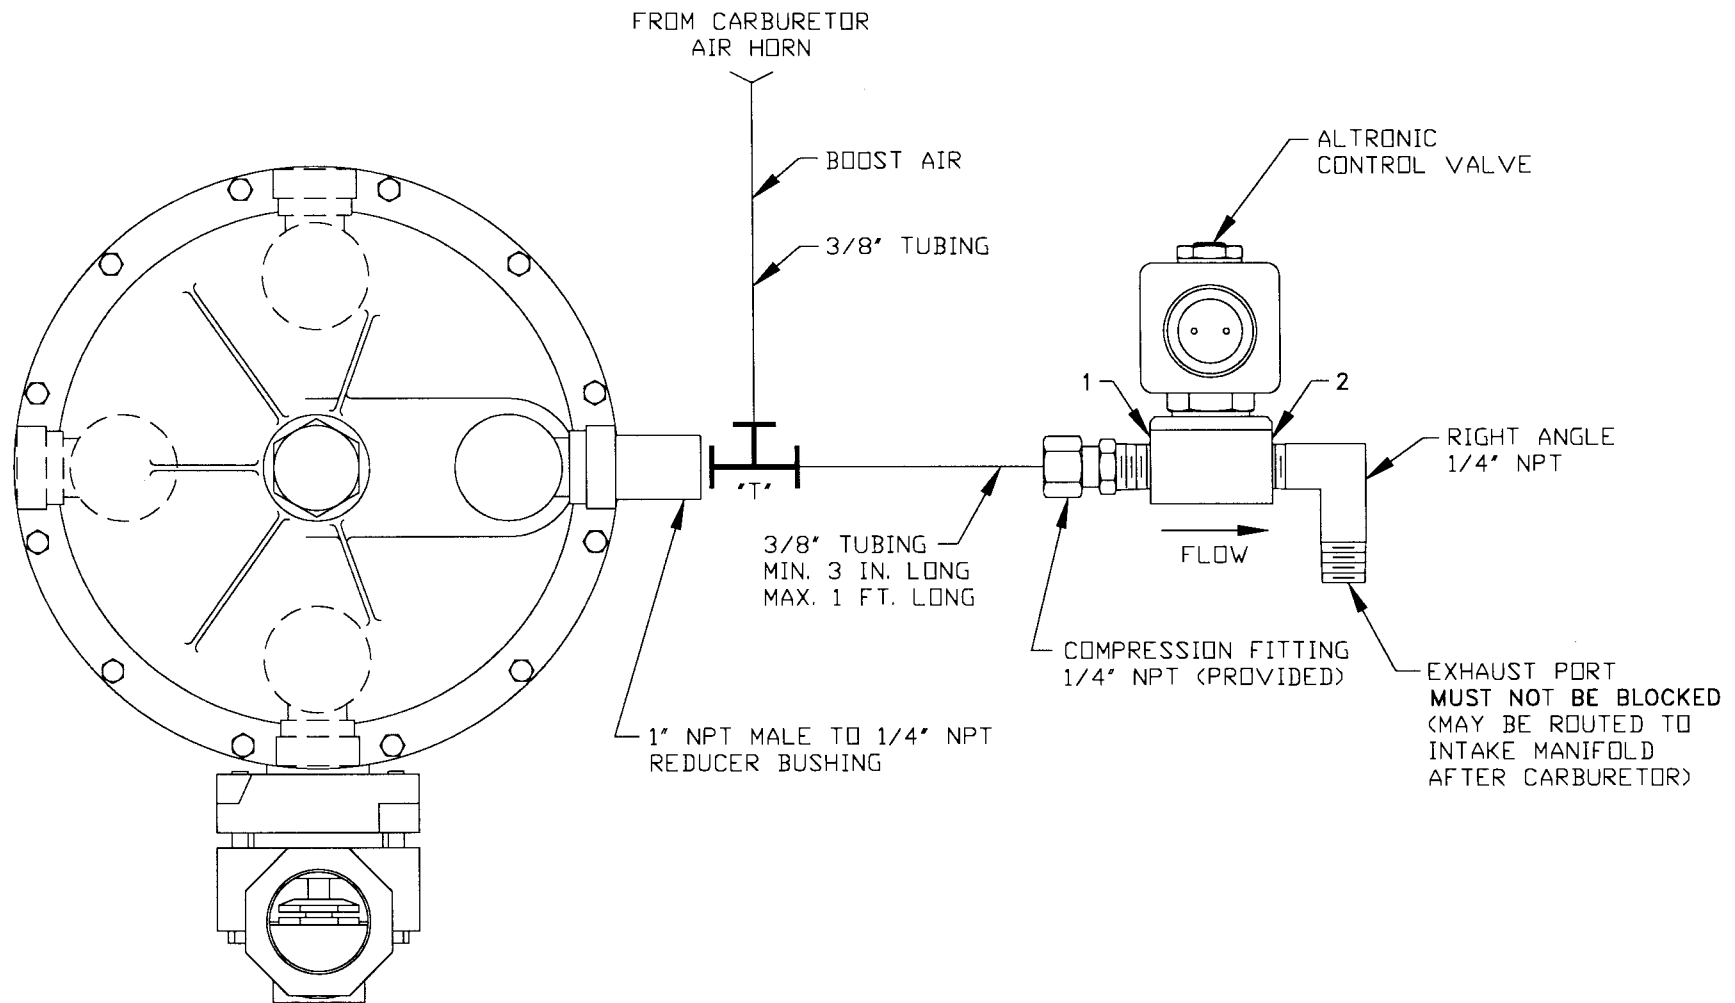

FIG. 9
- Figure 9: TURBOCHARGED WITH FISHER 200 SERIES REGULATOR - This drawing details the piping routing for the valve and regulator. The normal balance line is replaced with a new line that has a "T" for branching to the control valve. Note the exhaust port of the valve must not be blocked. If the regulator vent port is directly adjacent to the main fuel valve, the upper housing of the regulator may be unbolted and repositioned (clocked) to provide access to the vent port. Once plumbed, the connections should be tested for leakage.